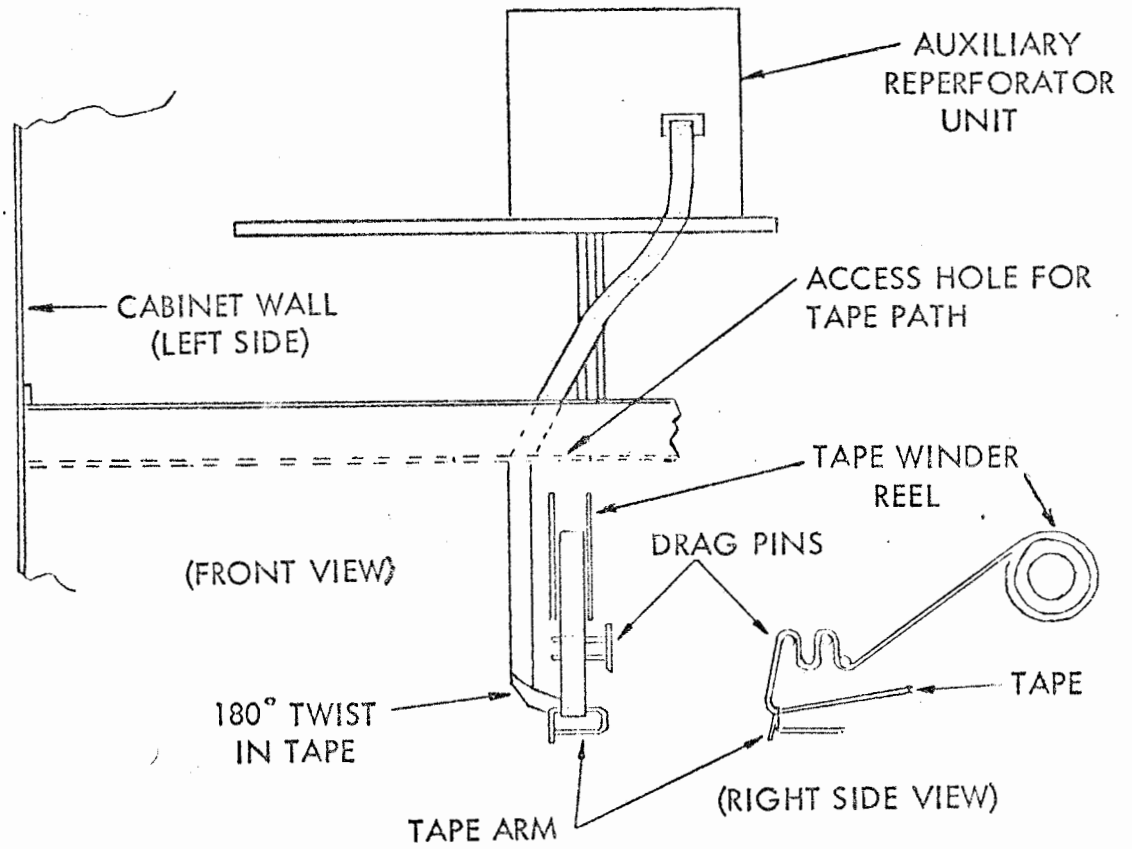

FIGURE 11. TAPE PATH FROM AUXILIARY REPERFORATOR UNIT TO TAPE WINDER REEL
(5) Make certain that the power switch is in its "OFF" position before closing the main power to the equipment.
(6) Refer to standardized instructions for installing paper and ribbon in the page printer.
(7) A thumb wheel or screwdriver slot is provided on the tape feed wheel shaft for starting or advancing the tape manually. On units with backspace mechanism, a hole is provided in the 160666 Guard for a screwdriver. Turn the thumb wheel or screwdriver to the left.
(8) For keyboard tape perforating unit. - Thread the tape from the top of the roll of tape, over the roller of the tape guide on the tape container and into the tape entry chute. Position and/or reform the tape guide, as necessary, so that the tape flows freely and makes full contact with the roller on the tape guide. Tighten the screws.
(9) For auxiliary typing reperforator unit. - Thread the tape from the bottom of the roll of tape, over the roller of the tape guide on the tape container, over the roller of the tape guide on the selector bracket and into the tape entry chute. Position and/or reform the tape guides, as necessary, so that the tape flows freely and makes full contact with the rollers on the tape guides. Tighten the screws.
(10) Routing of tape from the auxiliary typing reperforator unit to the tape winder reel. - Thread the tape through the access hole provided, twist the tape 180 degrees, thread the tape through the tape arm, around the drag pins and onto the tape winder reel. See Figure 11.